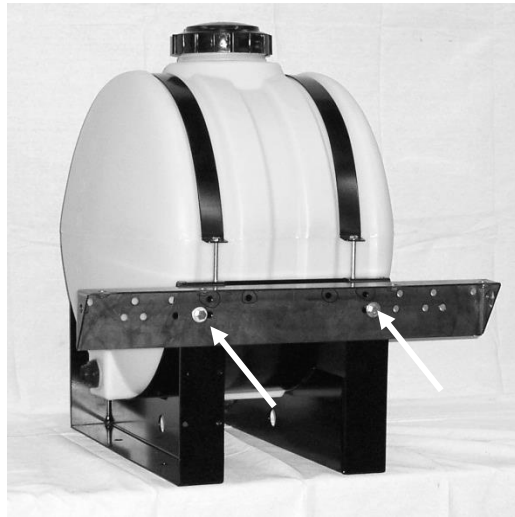

Figure 14
2. Connect the pump plate mounting bracket (001-4646C) to the saddle as shown in Figure 14, using two 3/8" x 3/4" bolts, nuts, locks, and flat washers.